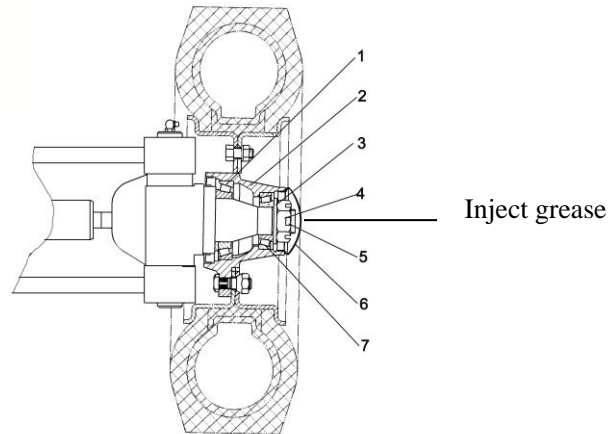

Figure 2-18 Preload adjustment
- (1) As shown in Figure 2-18, grease the hub, inner and outer bearings, and inner cavity of the hub cap. Grease the lip of the oil seal as well;
- (2) Fix the bearing outer ring on the hub and install the hub on the knuckle shaft;
- (3) Install the washer flat and tighten the grooved nut to a torque of 206-235N.m(21-24kgm), loosen the grooved nut and then screw the nut again to a torque of 9.8N.m(1kgm);
- (4) Gently knock the hub with a wooden hammer and turn the hub 3-4 turns to ensure that the hub is not loose;
- (5) Tighten the groove nut so that the groove is aligned with the cotter pin hole on the steering knuckle;
- (6) Gently beat the hub with a wooden hammer, turn the hub 3-4 turns by hand to ensure smooth rotation, and measure the rotational moment of the hub, the value of which is 2.94-7.8N.m (0.3-0.8kgm);
- (7) When the rotational torque is higher than the specified value, it can be returned 1/6 turn, and then measured the rotational torque;
- (8) When the specified torque is reached, the cotter pin is used to lock the groove nut.